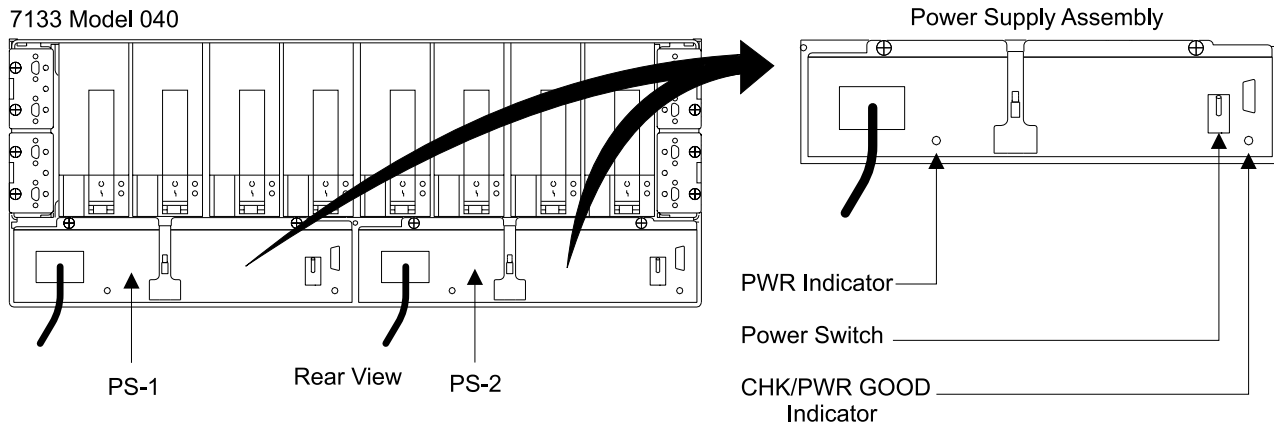

Figure 77. SSA DASD Model 040 Power Supply Assembly Indicator Locations (S008019m)
12. Go to the rear of the drawer. Observe the PWR (power) indicators on both power supply assemblies, see Figure 77 on page 162.
13. At the rear of the drawer. Observe the CHK/PWR Good (check/power) indicators on both power supply assemblies, see Figure 77 on page 162.
25. Go to the rear of Drawer-B. Observe the PWR (power) indicators on both power supply assemblies, see Figure 77 on page 162.
26. At the rear of the drawer, observe the CHK/PWR Good (check/power) indicators on both power supply assemblies, see Figure 77 on page 162.